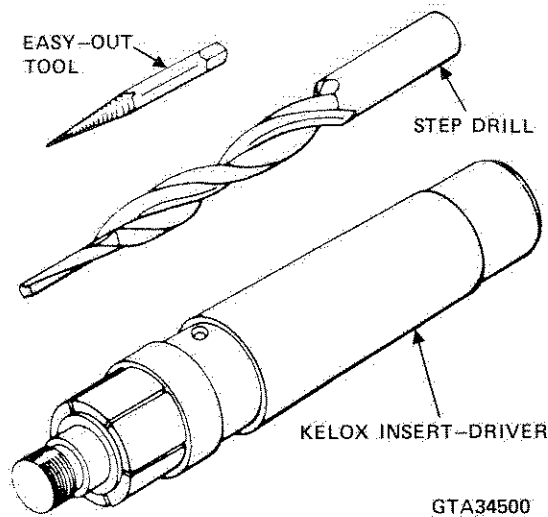

Figure 6-20. Tools for Installing and Removing Helical (Kelox) Inserts
3. Remove the remainder of the insert with an easy-out tool (Figure 6-20) or similar tool.
2. Installation Using Special Tools. (Figure 6-20).
- c. Using the drill recommended in Table 6-13, drill out the old threads. Use step drill (Figure 6-20) to obtain the proper hole and thread relief dimensions in one operation. Remove all metal particles from the hole.
- f. Select the recommended insert driver (Figure 6-20) from Table 6-13. Assemble the insert and the key ring; screw the assembly onto threaded end of the driver. Compress the drive mandrel; slide the key ring over the assembly. Release the drive mandrel; allow the insert to pull free from the key ring.
- h. While primer is still wet, screw insert into hole until the key ring drags on the first thread of tapped hole. Drive key ring flush to surface of material by pressing or striking insert driver tool (Figure 6-20). Key ring should be flush or below surface of material after installation.